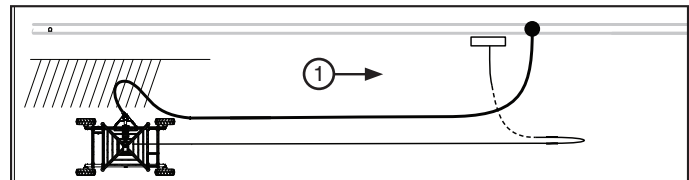

Figure 53-3 1. Direction of Travel
- (b) As the side inlet pivots the hose is pushed out away from the cart and guided by either the side walls of the cart tires. See figure 53-3.